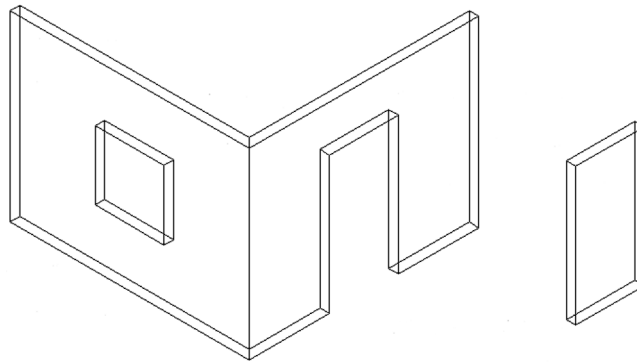
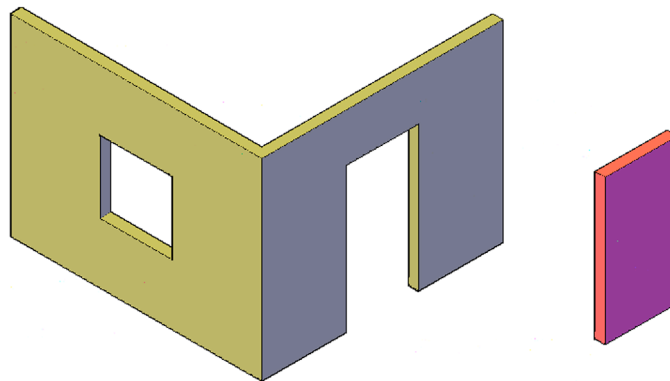

FIGURE 23.15 3D modeling exercise, Step 6 (wireframe).
FIGURE 23.16 3D modeling exercise, Step 6 (solid).
Step 6. Go ahead and subtract out the window and the door. Fig. 23.15 shows what you see in wireframe mode. Fig. 23.16 shows the same thing in shaded mode with color added.